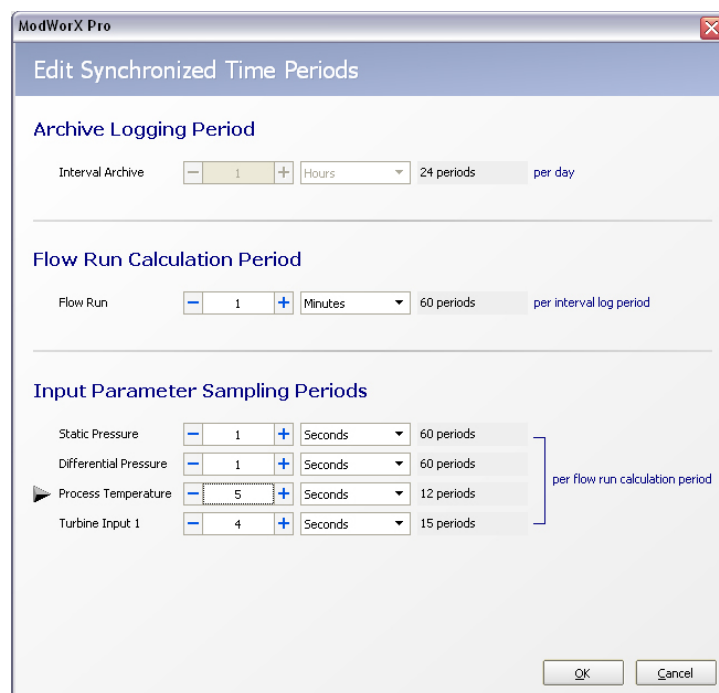

Figure 6.13
- i. Click **Edit**. The Edit Synchronized Time Periods dialog will appear, and an arrow will point to Process Temperature (Figure 6.13).